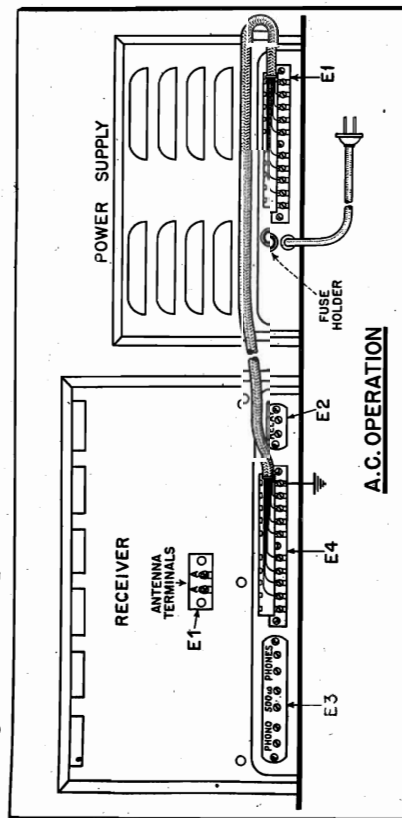

FIG. 3—Connections for power cable—A.C. operation.
(1) Remove the sheet-metal covers from terminal strip (E4, Fig. 3) on rear of Receiver and from terminal strip (E1, Fig. 3) on Power Supply. See that all ten screws on each strip are unscrewed at least three turns. Then attach one end of the connector cable to each terminal strip *exactly* as shown in Fig. 3 and tighten all screws securely. Make certain that each slotted spade lug on the cable strips makes contact with its respective screw terminal *only*, since a lug jammed between *two* screws could cause considerable trouble. Immediately replace both metal covers and do not remove them while the Power Supply is connected to the a-c power line.
(2) The spacing of spade lugs on cable terminal strips is exactly the same as the spacing of screws on Receiver and Power Supply. If the two fail to go together easily, DON'T USE FORCE. Be sure *all* screws are unscrewed far enough. If a spade lug has been bent or pushed out of place by rough handling, straighten it and try again. Spade lugs should slip under screws from the top.
Chassis Ground: It is not usually necessary to ground the Receiver chassis, but this can be done by connecting the ground lead to the left-hand PHONO or to the left-hand PHONES terminal (located on terminal strip E3, Fig. 3). These two terminals are grounded to the inside of the chassis.
Loudspeaker: The permanent magnet dynamic loudspeaker supplied with the Receiver has a transformer mounted on its housing. This transformer matches the voice coil of the loudspeaker to the 500-ohm output terminals (on terminal strip E3, Fig. 3) located at the rear of the chassis (marked 500 ohms). For loudspeaker operation, connect the two-wire lead attached to the terminals of the loudspeaker transformer to the 500-ohm terminals on the Receiver. Disconnecting the loudspeaker will not impair the operation of the Receiver.
(3) Fading signals can be improved by returning AVC-MANUAL switch to AVC.
d. *Receiver Silencing:* Receiver can be silenced by flipping the SEND-REC switch (S6, Fig. 2) to SEND. This operation opens the "B" supply to the R-F and 1st detector tubes (V1, V2 and V3). The Receiver then remains ready for instant service during transmission periods. Note also that instead of using the SEND-REC switch, a relay may be connected to the RELAY terminals (E2, Fig. 3) at rear of Receiver and silencing controlled by relay action, actuated, for example, by the associated transmitter. When using a relay for silencing, flip SEND-REC switch to SEND (open) and *leave* it there. While the transmitter is operating, the relay should remain *open*; when the transmitter is "off the air," the relay contacts should *close* to restore Receiver operation.
e. *Phono Operation:* Leads from a phonograph pickup may be connected to the PHONO terminals (on terminal strip E3, Fig. 3) at the rear of the Receiver. (Note that the left-hand terminal of this pair is grounded to chassis.) Use the SEND-REC switch (S6) as a "phono-radio" switch by flipping it to the SEND position, thus eliminating radio interference and making it unnecessary to hunt for a "dead spot" on the tuning dial.